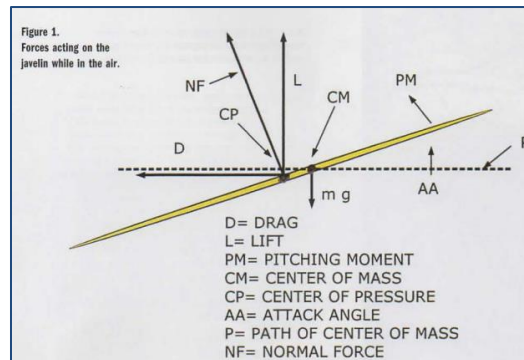

Fig. 28: Forces acting on Javelin [A. Maheras, 2013]
1. Undertake the effect of tail wing on Javelin throw range (Fig. 28).
3. Undertake the effect of angle of throw on Javelin range (Fig. 28).